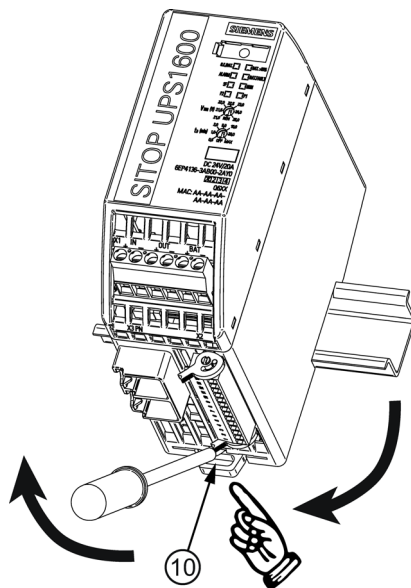

Figure 4-1 Removal (example 6EP4136-3AB00-2AY0)
To remove, carefully open the slider ⑩ using a screwdriver or by hand (see Figure 4-1 Removal (example 6EP4136-3AB00-2AY0) (Page 97)) and disengage the device at the bottom edge of the standard mounting rail. Then you can remove the device from the upper edge of the standard mounting rail.